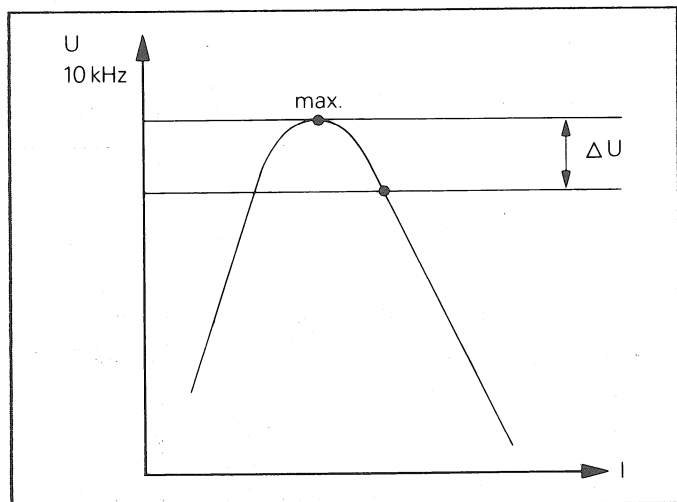

Fig. 12
- Carefully turn the potentiometer further clockwise until the voltage difference (ΔU) according to Fig. 12 is attained.
- Switch the recorder to STOP and connect the ground lead of the oscilloscope to test point 39 on the extender board, and the probe to pin 5 IC103 (CH1) or pin 5 IC203 (CH2) on the PREAMPLIFIER BOARD (Fig. 12).
- With L102 (CH1) or L202 (CH2) adjust to minimal RF on the oscilloscope (Fig. 12).